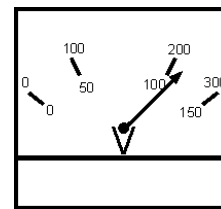
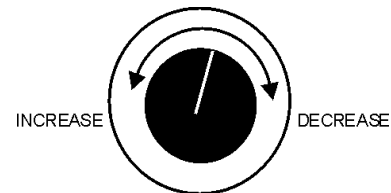

Figure 52. Voltage Meter (Volts)
Figure 53. Voltage Adjust Control Knob
10. The generator's frequency meter (Figure 52) displays the 60 cycle output frequency in **HERTZ**.
11. The generator's voltage meter (Figure 52) displays the 120 VAC in **VOLTS**. If the voltage is not within the specified frequency tolerance, use the voltage adjustment control knob (Figure 53) to increase or decrease the desired voltage.